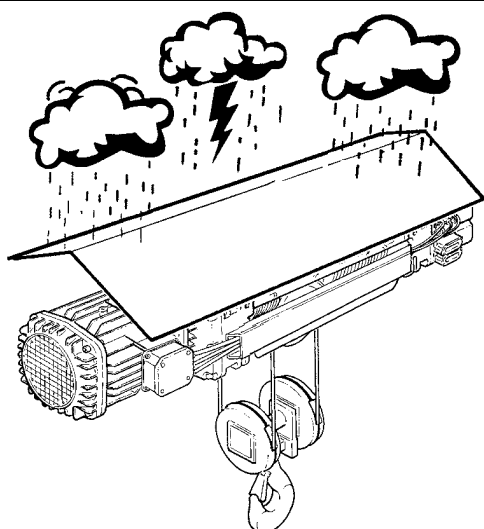

fig. 106
- **outdoor use:** the hoist may be exposed to atmospheric conditions during and after use. The electric parts of the hoist and trolley have IP55 protection, however, protecting the hoist and trolley with a shelter of some kind is recommended (fig. 106).